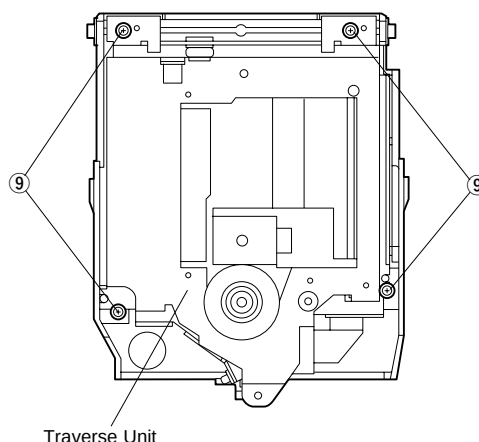

Fig. 5
- Remove 4 screws (⑨) and then remove the Traverse Unit as shown Fig. 5.